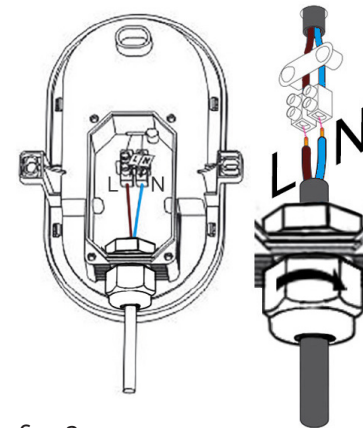

fig. 3
**fig. 3:** Prepare the cable in according to statutory regulations. Push the cable through the cable gland and seal it by tightening the union nut. Connect the wires according to the marks.